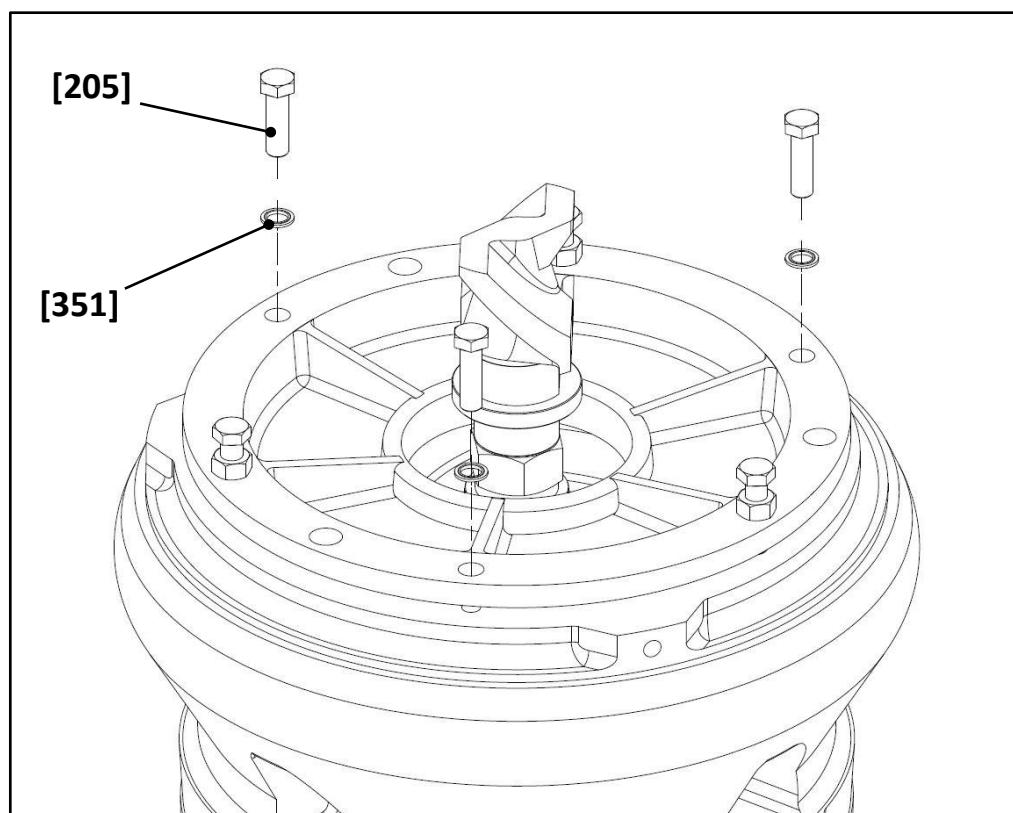

Fig. 27
- remove the n°3 bolts [205] and related seal washers [351] (see **Fig. 27**);